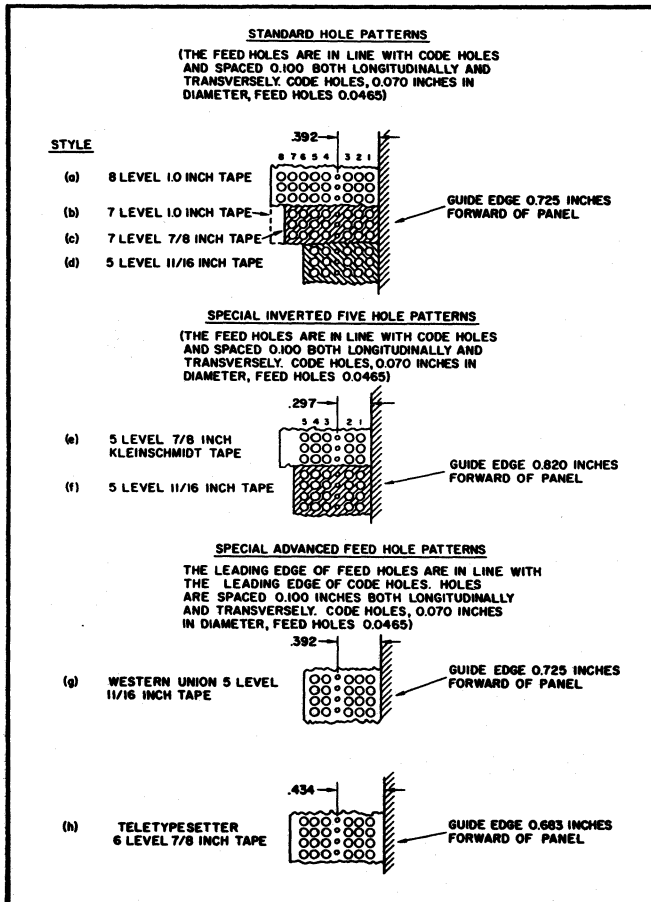

Figure 1-2. Available Hole Patterns
1-6. HOLE PATTERNS. The GP-3-200 Perforator is normally supplied to punch one of the standard hole patterns illustrated in Figure 1-2. One of the special hole patterns is provided when specified.
- Code Characteristics: Models available for perforating 5, 6, 7 or 8 level patterns; inverted 5 level patterns and advanced feed hole patterns (see Figure 1-2).